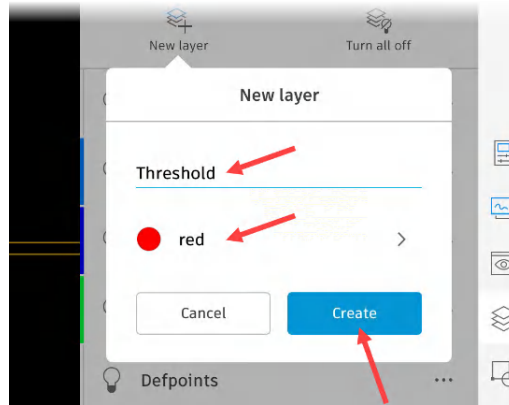

Figure 15.24: Selecting red as the layer color
5. Click the arrow next to the new layer name (arrowed). You will be taken to the layer color panel, as shown in *Figure 15.24*. You can slide the layer color panel up and down to choose any AutoCAD index color (0-255). Red was chosen from the top of the list, a recently selected layout color.